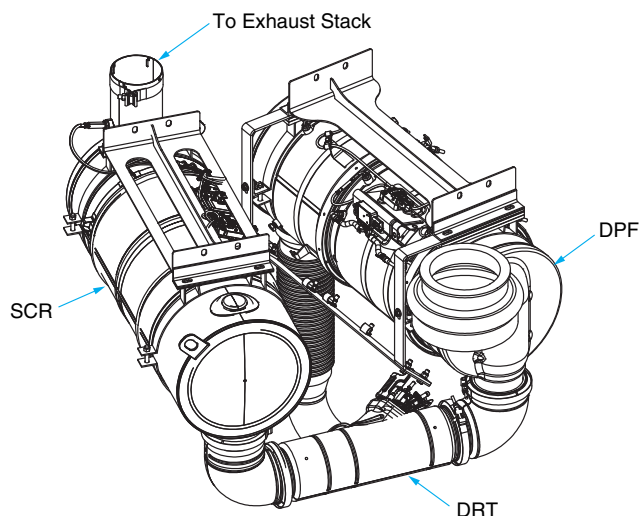

Figure 5-5-28 Detaching Diesel Particulate Filter
The Diesel Particulate Filter (DPF) is mounted inside the engine compartment, above the engine. See Figure 5-5-28.
3. Disconnect the straps securing the DPF. See Figure 5-5-28.